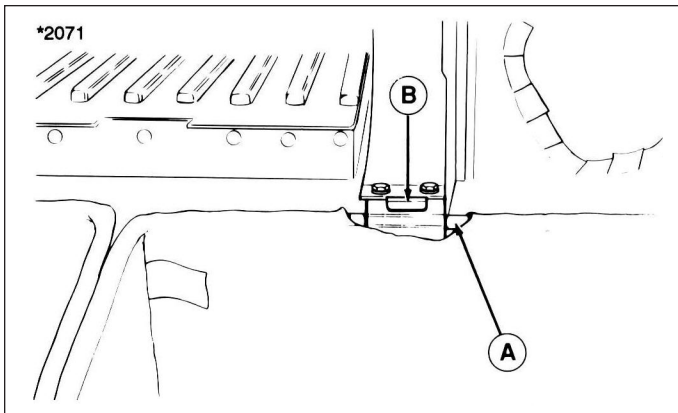

Figure 3.
3. Open grass bag cover and install grass bag frames (A, figure 3) to support brackets (B).